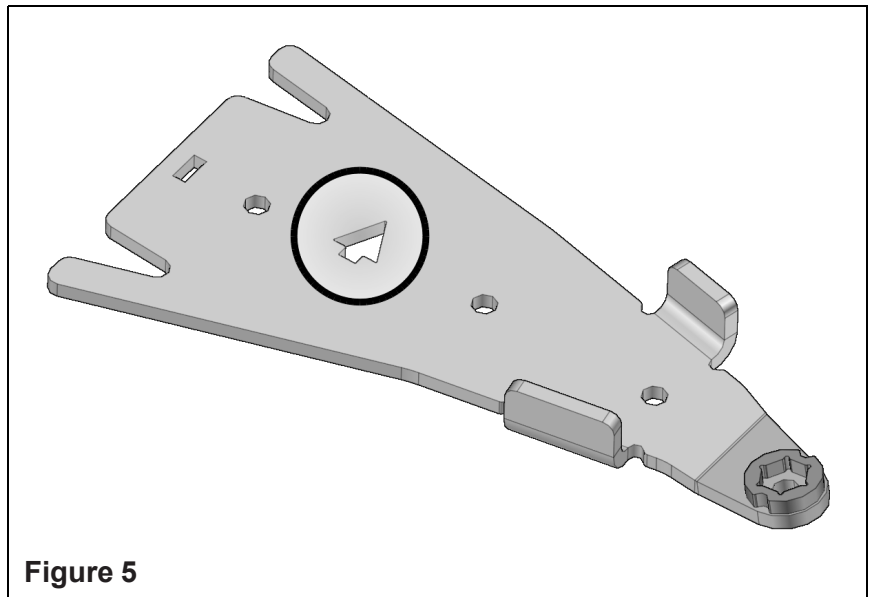

Figure 5
1. For installation purposes, directional arrows have been cut out of the main components in the anchor bracket kits. These arrows indicate the front of the vehicle relative to the component. Figure 5.